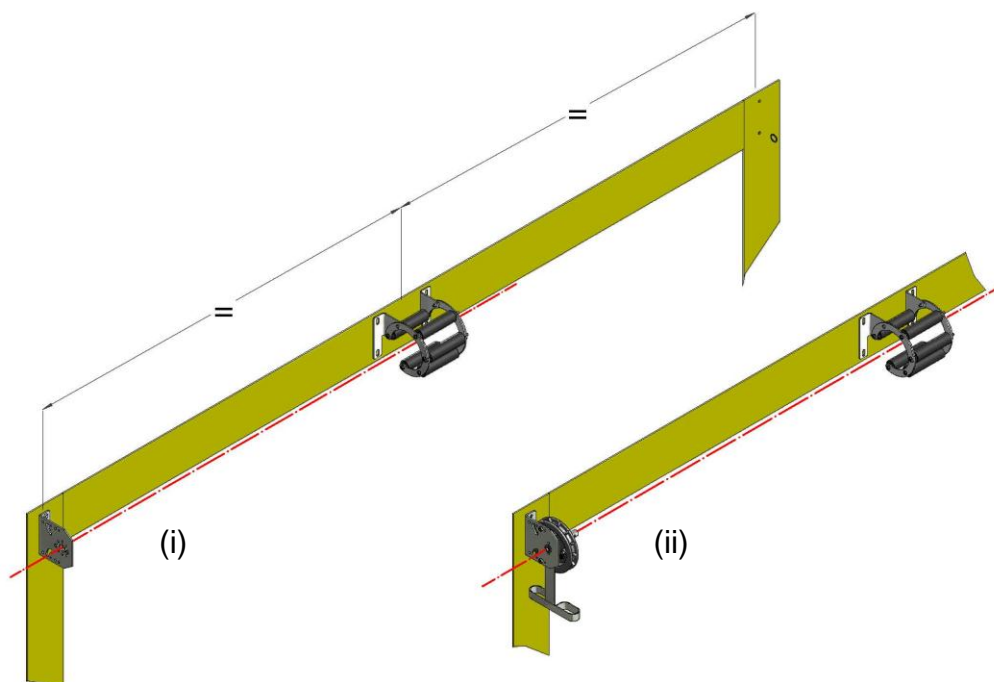

Figure 3, C Frame Support Fixing
3. Fit the C Frame Support (PA1) centrally between the top bracket mounting positions so that the centre of the C Frame aligns with the centre of the motor mounting bracket for Electric Rollerdoor, Figure 3(i) or centre of chain wheel for Rollerdoor, Figure 3(ii). For Electric Rollerdoor fix the motor bracket (F1) to the building.